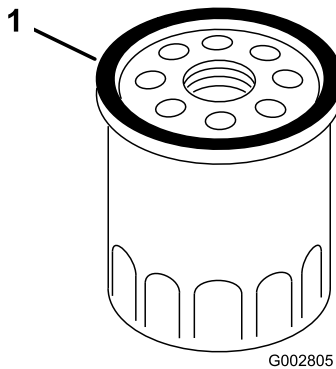

Figure 26
8. Use your finger to coat the gasket on the new filter with oil (Figure 26).